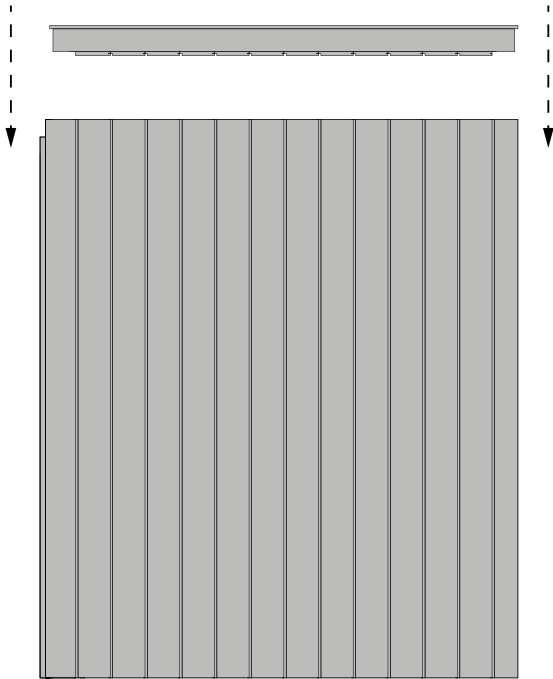

Figure 10.
- 15) Set the ceiling on top of the walls (see figure 10).